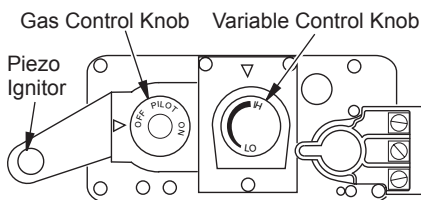

Figure 45 - Control Valve
- Turn gas control knob counterclockwise  to PILOT (see Figure 45).
- Push in gas control knob all the way and hold. Immediately light pilot by repeatedly pressing piezo spark ignitor until a flame appears. Continue to hold for about one (1) minute after pilot is lit. Release gas control knob and it will pop back. Pilot should remain lit. If it goes out, repeat steps 5 through 8.